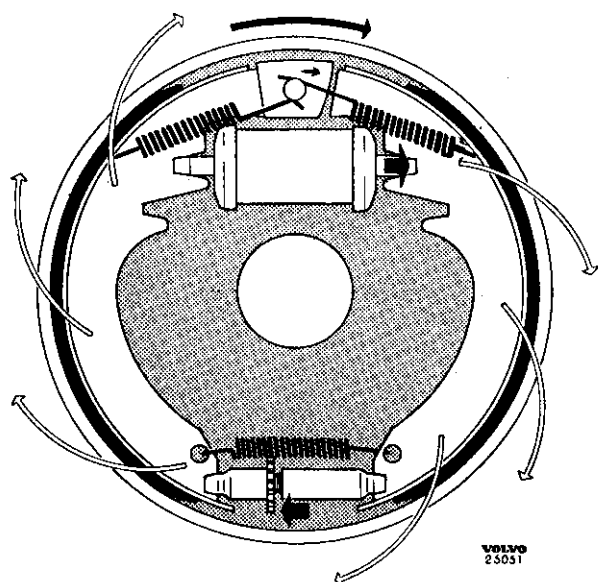

Fig. 13. Method of application of wheel brake unit.
When the brake is applied, the wheel unit cylinder plungers press out the shoes against the brake drum by means of the plunger rods (6, Fig. 10). Because of the friction between the drum and lining, the shoes will follow round in the direction of rotating of the drum. Due to the "floating" attachment of the shoes, the primary shoe (9) is pressed downwards and the secondary shoe (12) upwards until its upper end encounters the centring block (see Fig. 13). The end of the secondary shoe is then displaced by the block so that the shoe is centred in relation to the drum. Since the pivoting centre of the secondary shoe is at the anchor stud (4, Fig. 10) and that of the primary shoe at the adjusting device, friction between the drum and lining will assist with applying the brake, see Fig. 13. This action is also assisted by the fact that the primary shoe tends to follow round in the direction of rotation of the drum, which assists the application of the secondary shoe.